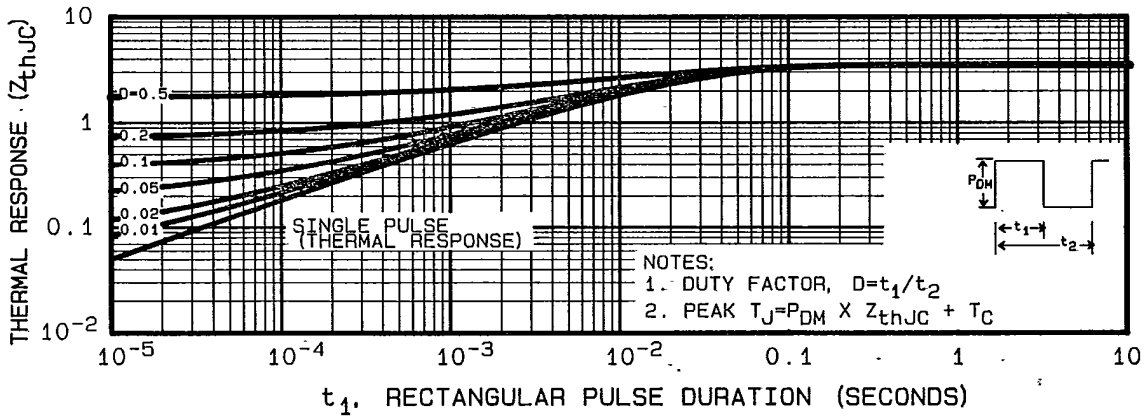

Fig. 5 - Maximum Effective Transient Thermal Impedance, Junction-to-Case Vs. Pulse Duration
① Repetitive Rating; Pulse width limited by maximum junction temperature (see figure 5) Refer to current HEXFET reliability report
②  $I_{SD} \leq 5.6\text{A}$ ,  $di/dt \leq 75\text{A}/\mu\text{s}$ ,  $V_{DD} \leq BV_{DSS}$ ,  $T_J \leq 175^\circ\text{C}$  Suggested  $R_G = 24\Omega$
③  $K/W = ^\circ\text{C}/\text{W}$